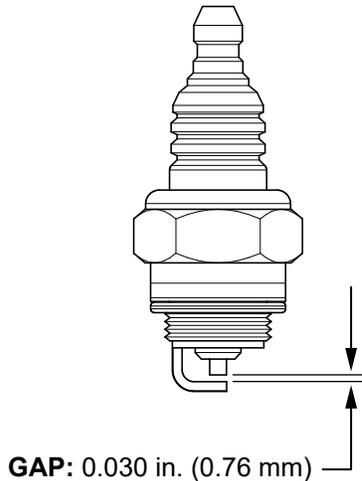

Figure 41. Spark Plug Gap
4. Measure the **spark plug electrode gap** (Figure 41) with a wire-type feeler gauge. If needed, adjust the gap to 0.030 in. (0.76 mm) by carefully bending the side electrode.